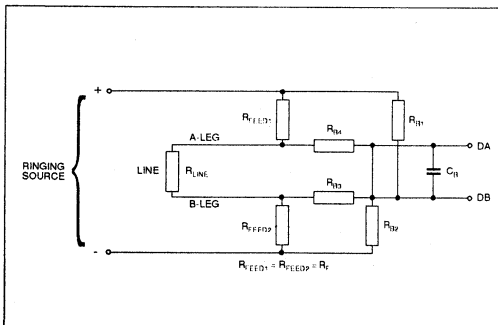

Figure 12: Ring trip circuit (balanced ringing)
Ringing voltage is normally applied to the line through the Ring Relay which is activated by RINGR. The ringing voltage sources, including line feed, are connected to the line via ringing feed resistors, R_{FEED1} and R_{FEED2} . The resistance bridge operates by allowing the DC voltage dropped across the ringing feed resistors (RF) in the OffHook condition to reverse the polarity of the voltage on DA and DB (DA < DB). Since the AC ringing voltage is greater than the DC feed, the capacitor C_B (Fig. 12) will filter this out at the comparator inputs. The connection shown is suitable for balanced ringing only. For unbalanced ringing, separate capacitors from DA (CBI) and DB (CBZ) to ground will be required to achieve the same result.
Fig. 12 shows how the resistance bridge is connected when used with balanced ringing. The circuit can operate correctly provided there is a DC feed in addition to the AC ringing voltage.